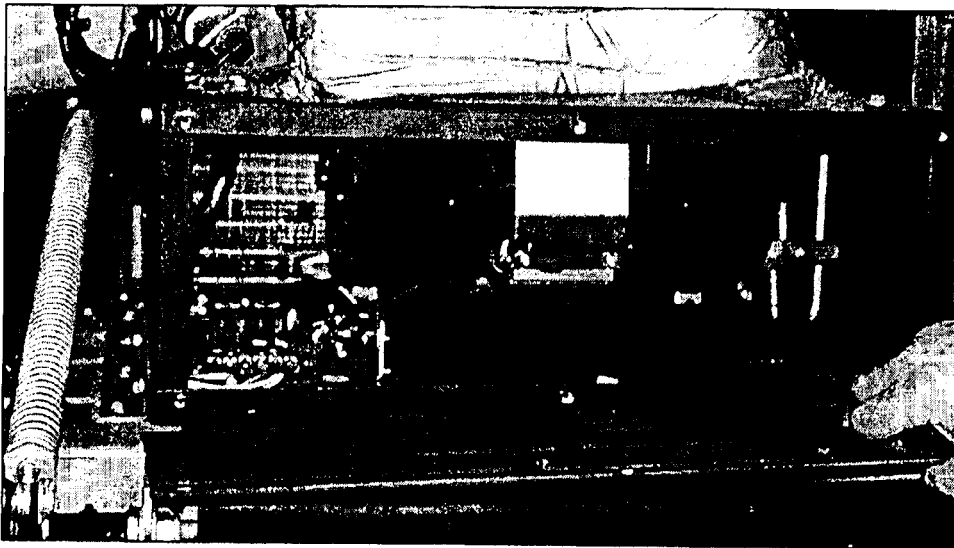

Figure 1. Driver's below floor defroster assembly in the tire compartment.
4. Remove and retain the mounting hardware from the driver's below floor defroster assembly front access panel (Figure 1).